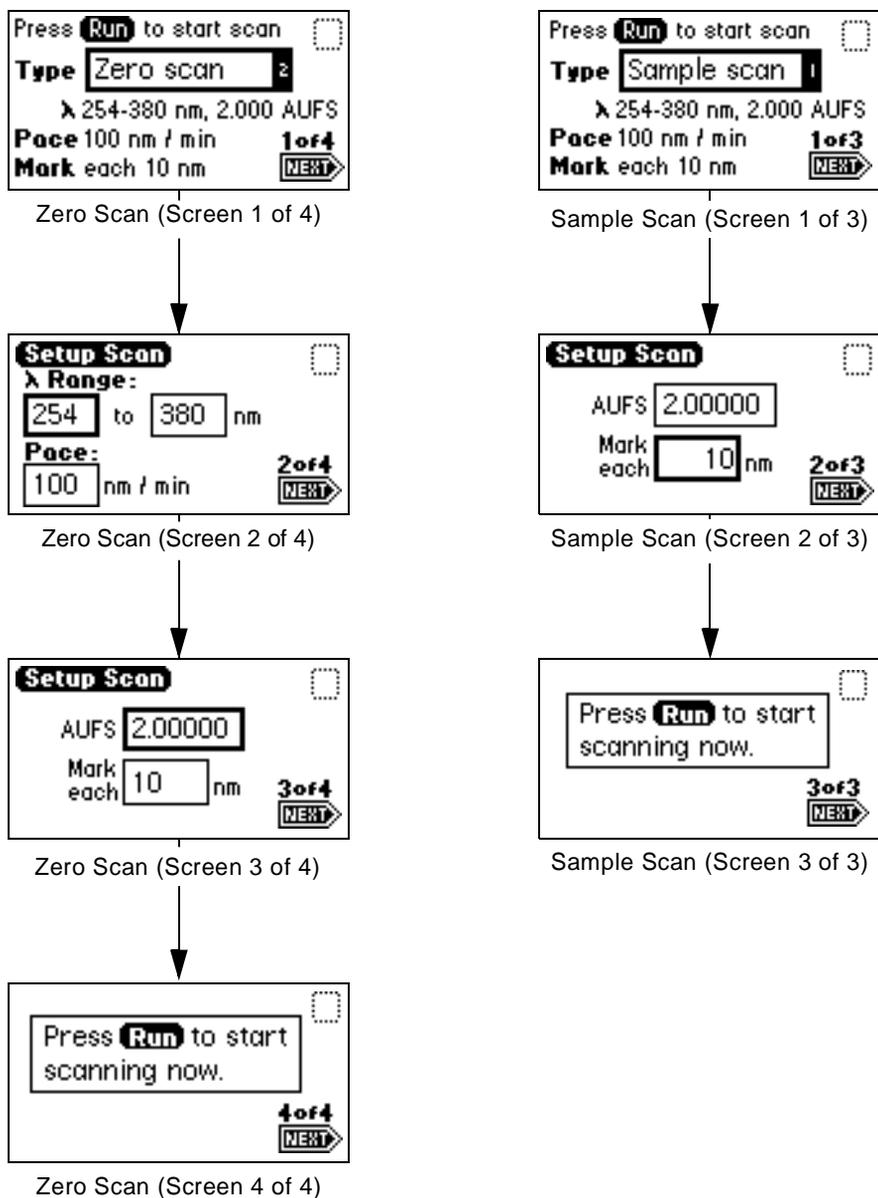

Figure 3-30 Zero and Sample Scan Screens
- The detector displays three additional screens, labeled 2 of 4, 3 of 4, and so on (Figure 3-30).
- The detector displays two additional screens labeled 2 of 3 and 3 of 3 (Figure 3-30).
2. Press **1**, **New scan**, or use the s and t keys to move through the Scan choice list. The detector displays the first of three parameter screens for a Sample scan or four parameter screens for a Zero scan (Figure 3-30).